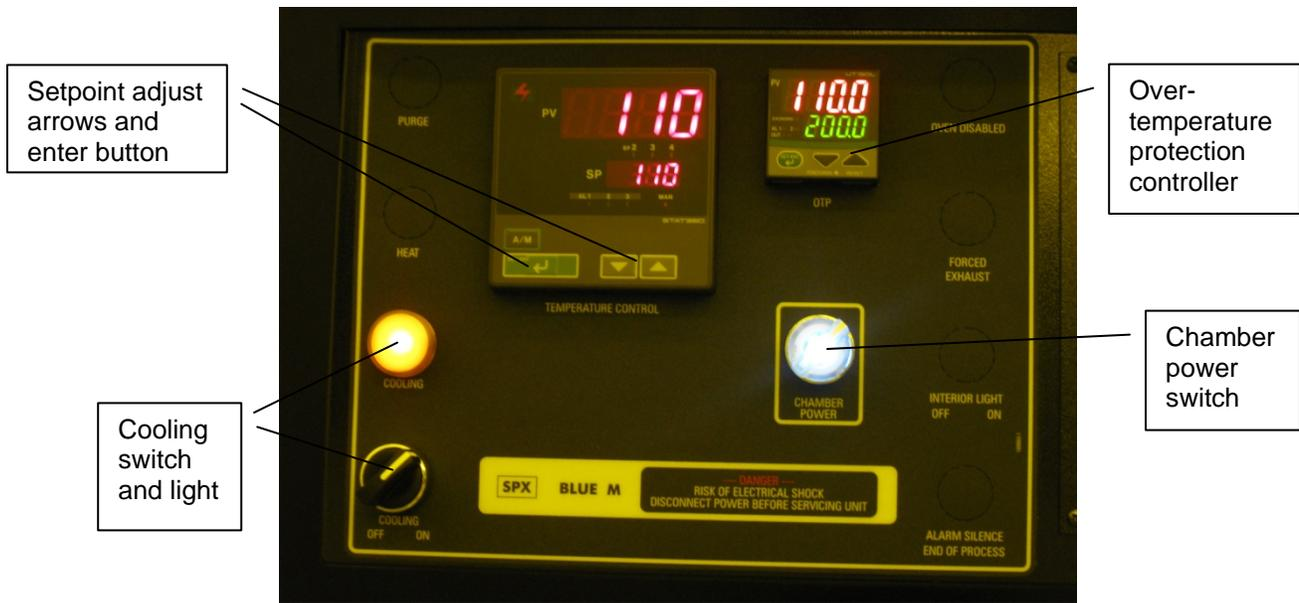

Figure 3: Close-up of the controls.
- c) Turn the chamber power switch (Figure 3) to ON position. The temperature controller will energize and the chamber power light will illuminate.
- d) Turn on the cooling power switch (Figure 3), its light will illuminate.
There is chamber temperature controller (ST350) that is used to set the temperature of the oven. There is also over-temperature protection controller UT150L (Figure 3). It is set to 261°C (11°C above the rated maximum temperature of the oven). Do not attempt to change this setting. Its purpose is to shut down power to the heater if because of a malfunction temperature reaches this value. It also gives the audible alarm. If the audible alarm is on, inform the staff immediately.
To change the chamber temperature use the up/down arrows (Figure 3) and the SP display will change accordingly. Use the enter button to set the new set-point value. The bigger chamber temperature display will start changing towards set-point.
- b) Turn off the cooling power switch (Figure 3).
- c) Turn the chamber power switch (Figure 3) to OFF position